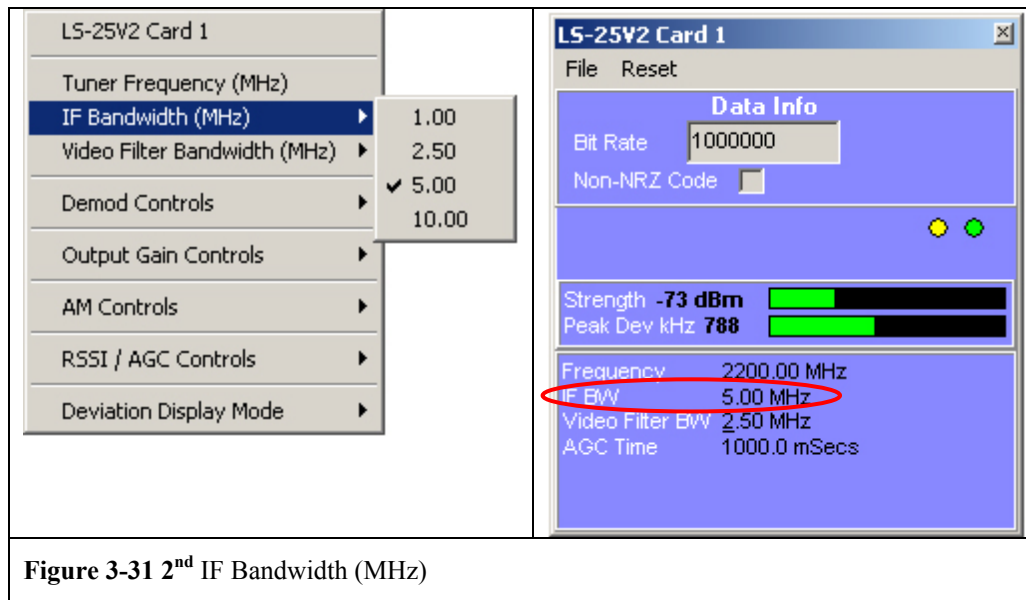

Figure 3-31 2nd IF Bandwidth (MHz)
The Version 2 Lumistar LS-25-D Multi-band RF Down-converter and the LS-25 Multi-band FM Receiver are factory configured to support up to twelve (12) separate 2nd IF bandwidths. Standard bandwidths include: 500kHz, 1MHz, 1.5MHz, 2.5MHz, 3.5MHz, 4MHz, 6MHz, 8MHz, 10MHz, 12MHz, 16MHz, and 20MHz. At the factory the selected 2nd IF bandwidth values are programmed into a configuration PROM and are used by the LDPS application to populate frequency values in the pop-up list box shown in Figure 3-31 below left. In the example shown, the unit is factory configured with 2nd IF bandwidths of 1, 2.5, 5, and 10 MHz. The actual 2nd IF bandwidths the individual user will see when setting the IF bandwidth are likely to be different than those show here. Once selected, the 2nd IF bandwidth will be displayed as shown in the figure below right (red oval).